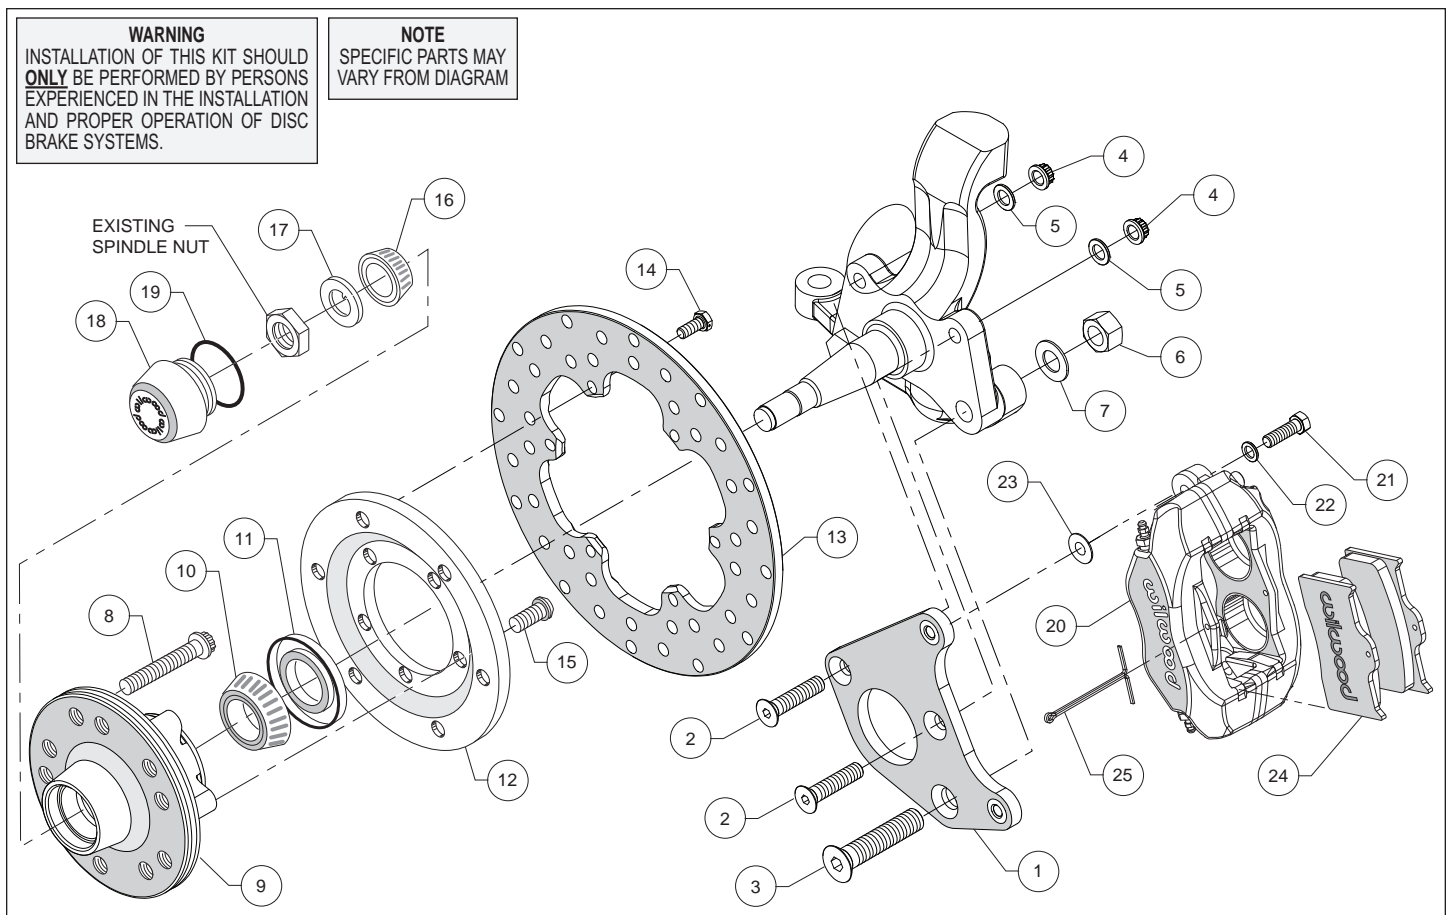
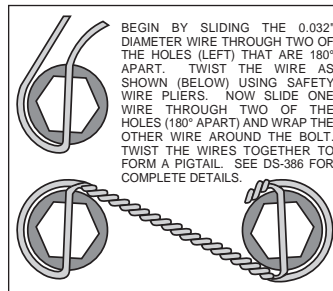
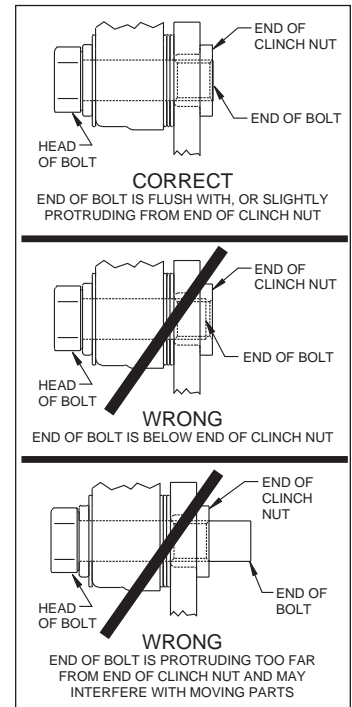

Figure 1. Typical Installation Configuration
Figure 3. Safety Wire Diagram
Figure 4. Clinch Nut Engagement Diagram
Assembly Instructions (numbers in parenthesis refer to the parts list, on the preceding page and Figure 1): **CAUTION:** All mounting bolts must fully engage clinch nuts. Be sure to check that all bolts are either flush or protruding through flanged side of clinch nut after shimming, Figure 4.
- Orient the caliper mounting bracket (1) as shown in Figure 1 and Photo 1. Attach using bolts (2 and 3), nuts (4 and 6) and washers (5 and 7), Figure 1. Temporarily tighten the mounting bolts. Ensure that the flanged heads of the clinch nuts in the bracket are facing outboard, Photo 1. **NOTE:** The bracket must fit squarely against the mounting points on the spindle. Inspect for interference from casting irregularities, machining ridges, burrs, etc. Torque nuts (4) to 47 ft-lbs and nut (6) to 140 ft-lbs.
- Install the grease seal (11) by pressing into the backside of the hub (9), flush with the end of the hub, Photo 3.
- Orient the rotor (13) and the rotor adapter (12) as shown in Figure 1 and Photo 4. Attach the rotor to the adapter using bolts (14). Using an alternating sequence, apply red *Loctite*® 271 to the threads, and torque to 25 ft-lbs. Safety wire bolts using standard 0.032 inch diameter stainless steel safety wire as shown in Figure 3. Refer to Wilwood's data sheet DS-386 (available at www.wilwood.com/Pdf/DataSheets/ds386.pdf) for complete safety wire installation instructions.
- Mount the adapter/rotor assembly (12 and 13) to the hub (9)
using bolts (15), as shown in Figure 1 and Photo 5. Using an alternating sequence, apply red *Loctite*® 271 to the threads, and torque to 45 ft-lb.
- Pack the small outer bearing cone (16) with high temperature disc brake bearing grease and install into hub (9). Slide the hub/rotor assembly onto the spindle. Secure using spindle washer (17) and OEM spindle nut, Photo 6. Install saved OEM nut lock (if any) and a new cotter pin (not included). Bearing adjustment: Tighten the nut while turning the hub. When there is a slight bind on the bearings, they are seated correctly. Back the nut off about 1/6 to 1/4 of a turn, or sufficiently to allow .001" to .007" end play. **WARNING:** Failure to back off adjusting nut could cause bearing to run hot and be damaged, which could cause the wheel to lock or come off.
- Screw dust cap (18) into hub (9), Photo 7. Friction created by the o-ring (19) on the dust cap keeps it from unscrewing. **NOTE:** The O.D. of the existing OEM spindle washer may be larger than the I.D. of the dust cap not allowing it to seat against the hub face. Therefore, use the spindle washer (17) supplied with the kit instead of the OEM washer.
- NOTE:** Please reference the caution statement at the beginning of the assembly instructions. Mount the caliper (20) onto the caliper mounting bracket (1) using bolts (21) and washers (22), as shown in Figure 1. Initially place one .035" thick shim (23) on each bolt between the caliper and the bracket, Photo 8. Temporarily tighten the mounting bolts and view the rotor (13) through the top opening of the caliper. The rotor should be centered in the caliper, Photo 9. If not, adjust by adding or subtracting shims (23) between the bracket and the caliper. Always use the same amount of shims on each of the two mounting bolts. **NOTE:** The end of each bolt must be flush with or slightly protruding from the head of the clinch nut, as shown in Figure 3. If necessary place spare shims between washer (22) and caliper mounting ear to achieve the proper clinch nut engagement. Once the caliper alignment and clinch nut engagement are correct, remove the bolts one at a time, apply red *Loctite*® 271 to bolt threads, and torque to 40 ft-lb. For an added measure of security, the bolts may be safety wired using standard 0.032 inch diameter stainless steel safety wire as shown in Figure 3. Refer to Wilwood's data sheet DS-386 (available at www.wilwood.com/Pdf/DataSheets/ds386.pdf) for complete safety wire installation instructions.
- Install the disc brake pads (24) into the caliper, with the friction material facing the rotor (13), Photo 10, and secure in place using cotter pin (25), Photo 11.